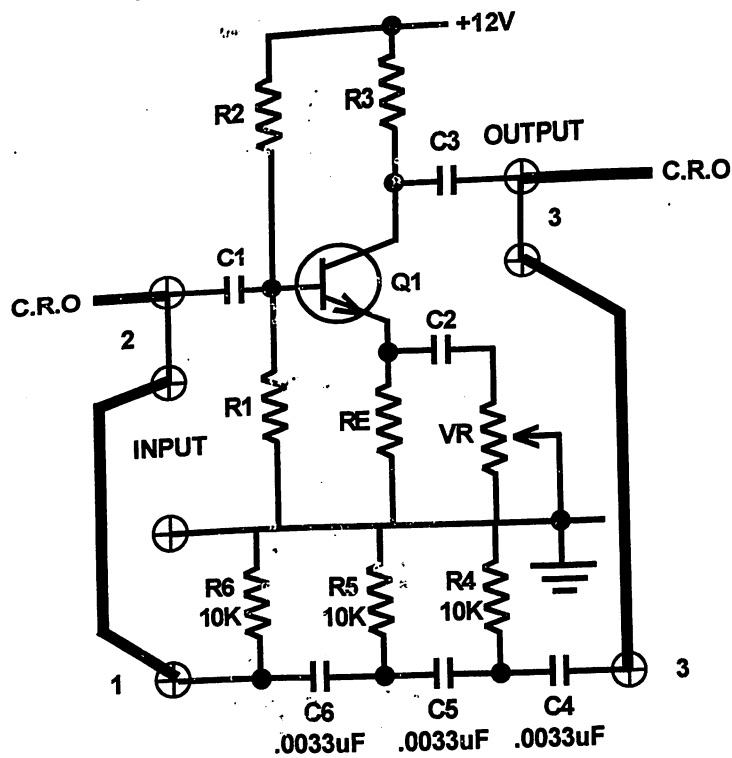

FIG 2.The Phase shift R - C network connections for experiment
The circuit: In fig 2 complete circuit of phase shift oscillator is shown, where Q1 is the amplifier with current series feedback applied through RE, C2 and VR1. The negative feedback increase the input impedance higher. The values of R2, R1 is kept high not to disturb the phase shift network impedance.
1. Connect The circuit as shown in fig 2. Connect CRO across the Q1 output socket. Switch ON the power. Rotate VR1 to obtain oscillations.